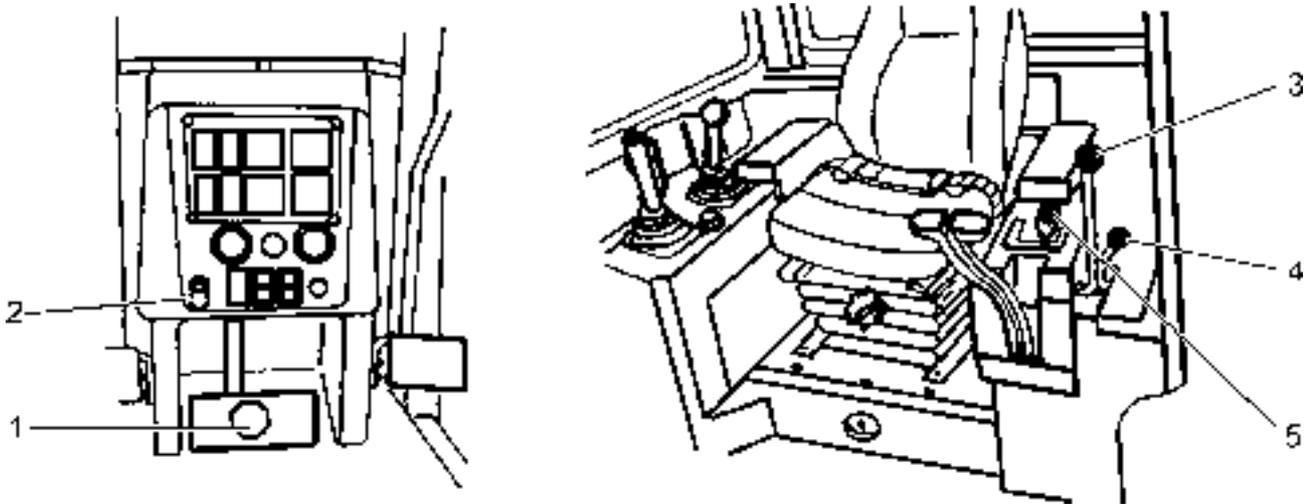

Fig. 4.16. Driving the Machine
**4.9. DRIVING THE MACHINE (Fig. 4.16)**